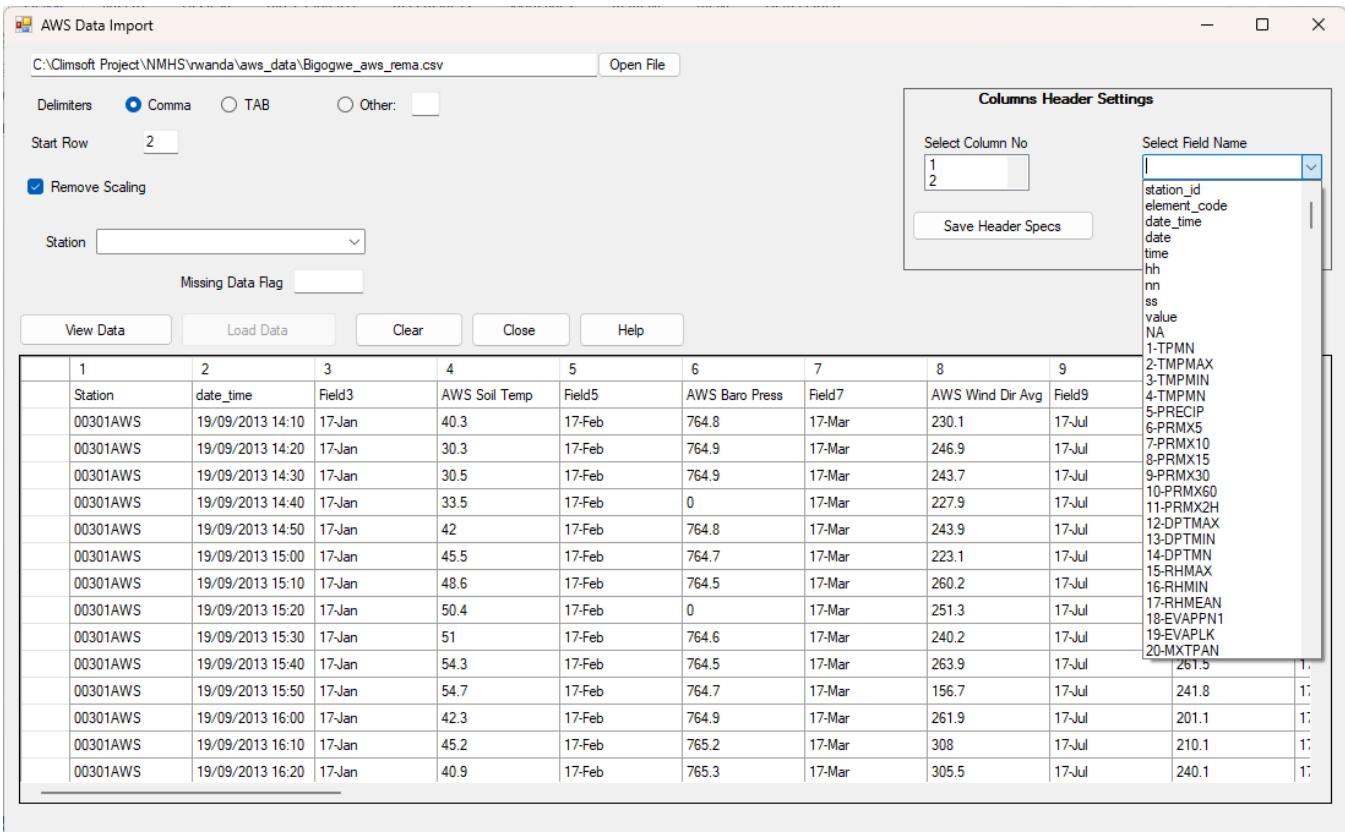

Figure 55: AWS Data Import
- (iii) Select “**AWS**” to open import dialog shown as shown in *Figure 55*,
- (v) After the file has been located, click “Open” in the file open dialog. The filename with its full path will then be shown in the Import File text box. See *Figure 55*,
- (i) Under “**Columns Header Settings**”, select the *column number* and the *field name* that describes data in that column. Do that for each column until all of them are done. Make sure the correct field names are selected in order for the data to be appropriately mapped into the database. If any column contains data that does not need to be imported then “**NA**” should be selected for *field name*. See *Figure 55*,